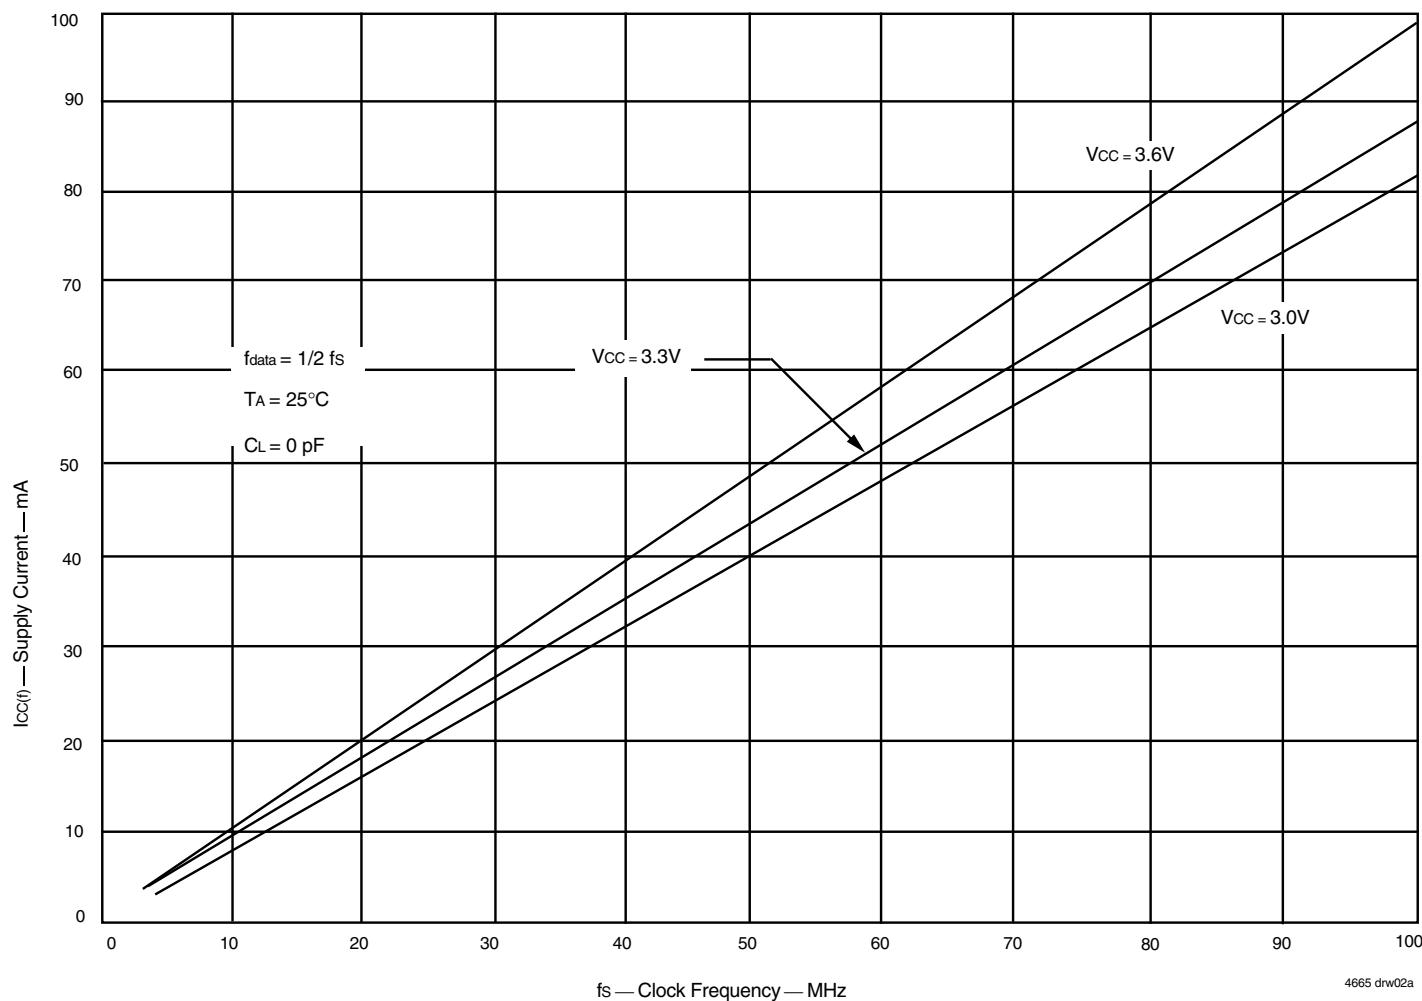

Figure 1. Typical Characteristics: Supply Current (I_{CC}) vs. Clock Frequency (fs)
3. For additional I_{CC} information, see Figure 1, *Typical Characteristics: Supply Current (I_{CC}) vs. Clock Frequency (f_s)*.
The $I_{CC(f)}$ current for the graph in Figure 1 was taken while simultaneously reading and writing a FIFO on the IDT72V3656/72V3666/72V3676 with CLKA, CLKB and CLKC set to fs . All data inputs and data outputs change state during each clock cycle to consume the highest supply current. Data outputs were disconnected to normalize the graph to a zero capacitance load. Once the capacitance load per data-output channel and the number of these device's inputs driven by TTL HIGH levels are known, the power dissipation can be calculated with the equation below.
With $I_{CC(f)}$ taken from Figure 1, the maximum power dissipation (P_T) of these FIFOs may be calculated by: